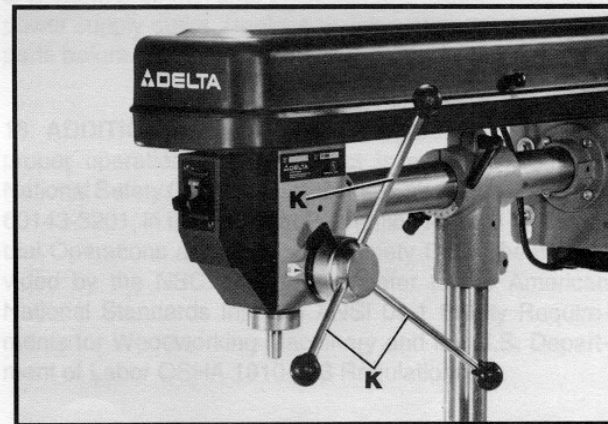

Fig. 7
6. Thread the three pinion shaft handles (K) Fig. 7, into the three tapped holes located in the pinion shaft, as shown.